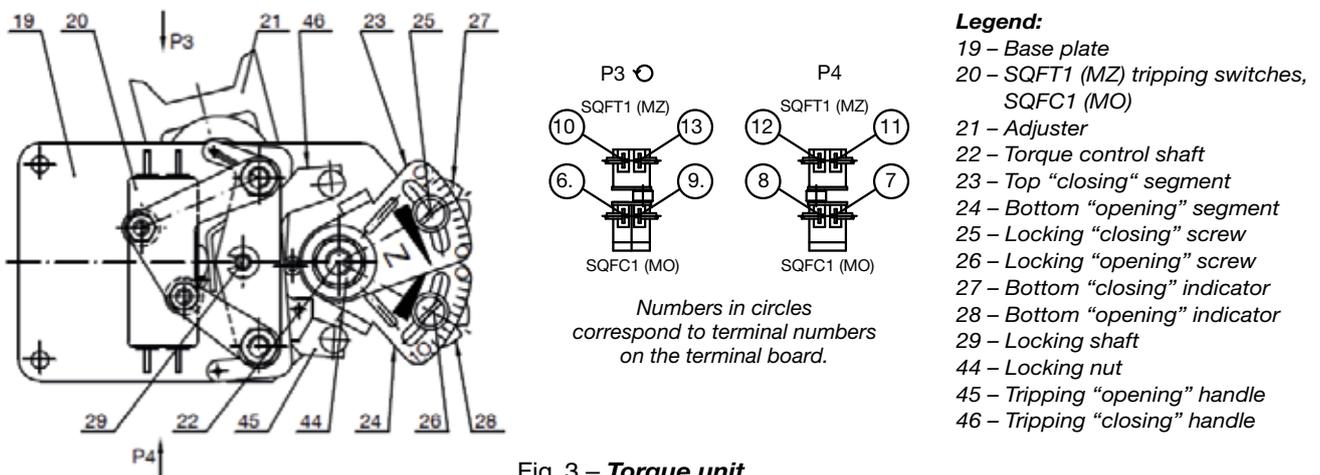

Fig. 3 - Torque unit
a) Torque tripping unit (Fig. 3) as an independent assembly unit, it consists of base plate 19, which carried micro switches 20 and at the same time creates bearings for torque control shaft 22 and locking shaft 29. Torque control shaft transfers motion of the floating worm from power gear, using segments 23 or 24 and handles 45 or 46, to micro switches. Tripping torque value is adjusted by rotating the segments against the tripping handles. For possible tripping torque set-up outside the manufacturing plant, segments 23 and 24 are provided with a scale providing individually for each actuator indications of points for setting up the maximum and minimum torque. The set up torque is indicated by recesses in segments 27 and 28. Figures on the scale do not give direct indication of the tripping torque. Increments on the scale only serve to provide a more accurate division between the maximum and minimum torque levels, and thus to enable a more precise set-up of the tripping torque outside the manufacturing plant if no loading bench is available. Segment 23 is intended for "closing" direction, segment 24 for "opening" direction.
To set the tripping torque to another value, differing from the default value set at the manufacturing plant, proceed as follows: release locking nut 44 (Fig. 3), and the relevant locking screw 25 (for "closing" direction) or 26 (for opening direction). Subsequently, put a screwdriver into the recess in the top segment 23 or 24 and rotate the segment until the recess in segment 27 or 28 points at the relevant point on the scale. This point is identified by dividing the difference between the maximum and minimum adjustable torque in Nm by the number of increments between the maximum and minimum torque signs. This approach shows us how many Nm of tripping torque falls on one increment on the scale. By interpolation, identify the point on the scale, to which the recess in segment 27 or 28 should point. The coloured line on the scale that is closer to number 10 indicates the setting point of maximum tripping torque, the other line identifies the setting point of minimum torque. The torque control unit must never be set up in a way that the recess in the bottom segment lies outside the area between the two coloured lines on the scale.